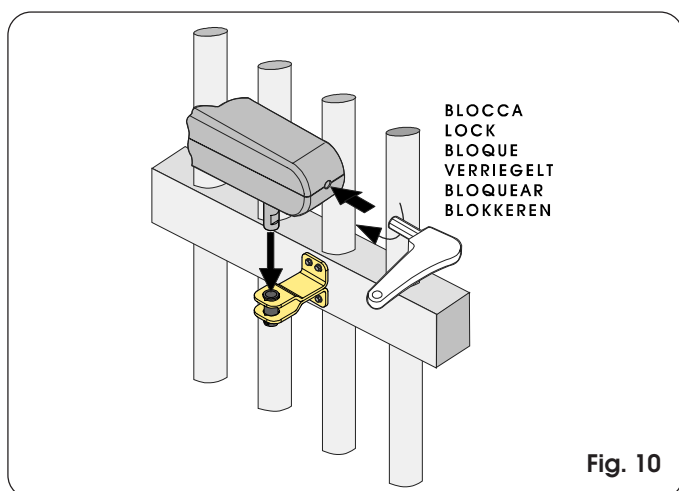

Fig. 10
Fasten the operator to the front fitting as shown in Fig. 10 and turn the release key clockwise to the closing stop position.
- Re-position the operator on the front fitting (Fig. 10);